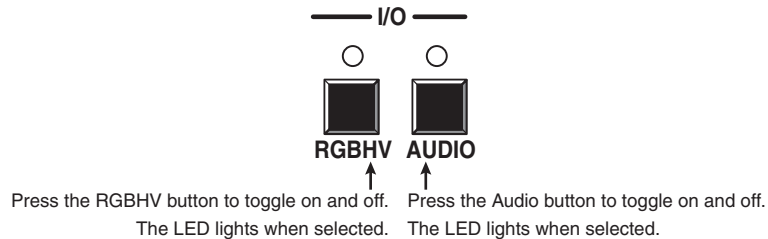

Figure 3-4 — Select RGBHV and audio
2. To select video and audio for the tie, if necessary, press and release the RGBHV button and the Audio button until both the RGBHV and Audio LEDs light (figure 3-4).